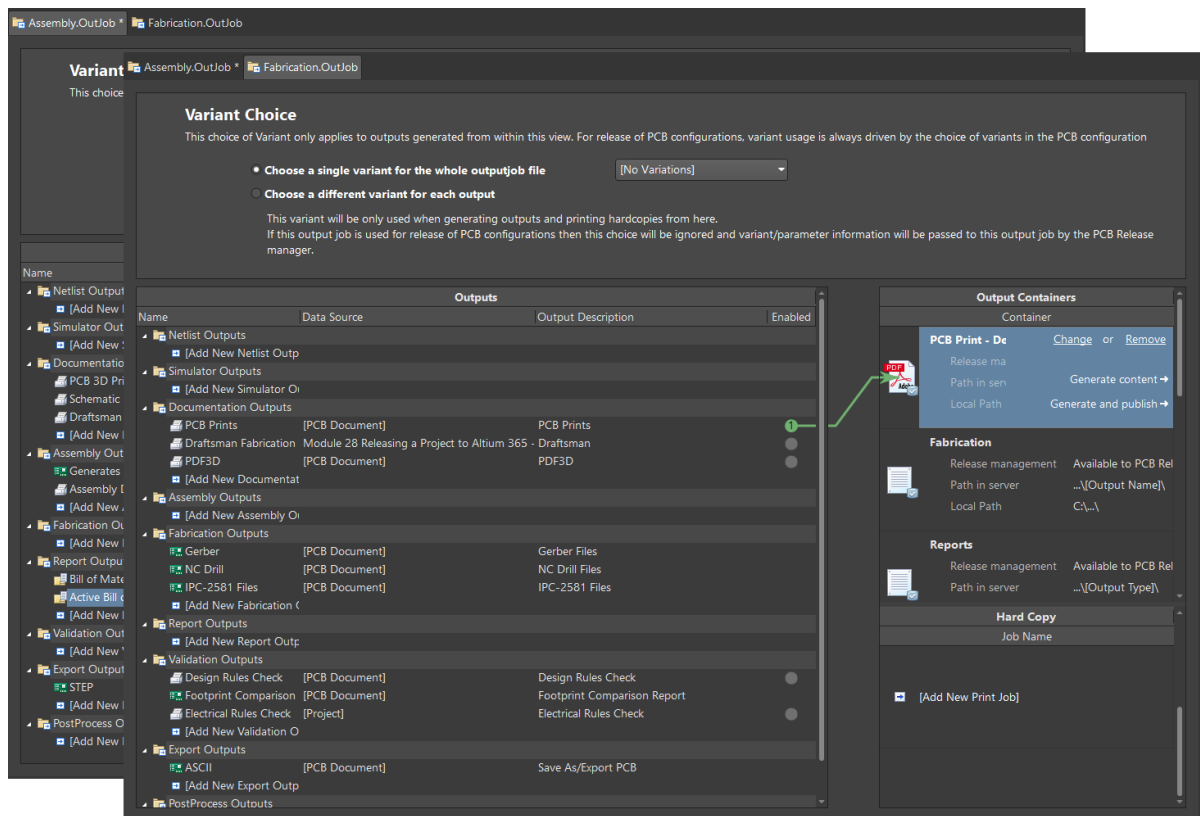

Figure 1. Out Job Configuration files
9. In the example Project there are two Out Job files. Open these files, the Output Job files should look similar to Figure 1.